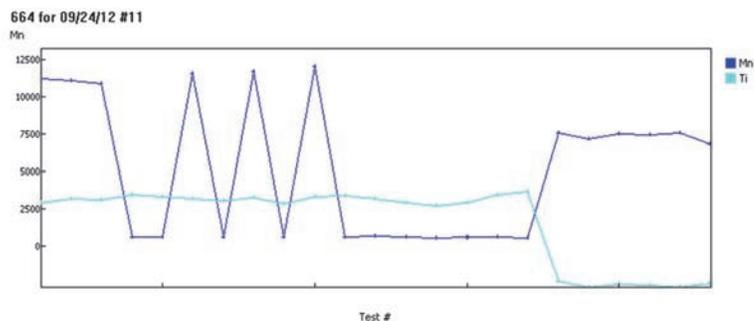

Figure B-1 The Trending graph
9. Click **Trending** to display the trending graph (see Figure B-1 on page 123).